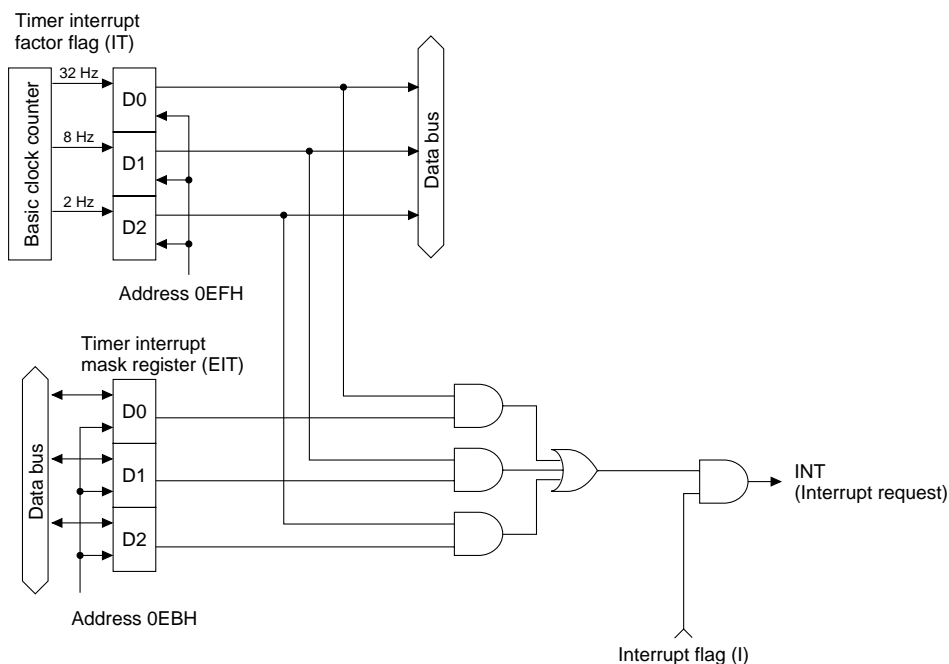

Fig. 3.9.2
The flag is reset, when it is loaded by software. (See Figure 3.9.2.)
- EIT32 This register enables or masks the 32 Hz timer interrupt. The CPU is interrupted if it is in the EI state when the interrupt mask register (EIT32) is set to "1" and the interrupt condition flag (IT32) is "1". (See Figure 3.9.2.)
- EIT8 This register enables or masks the 8 Hz timer interrupt. The CPU is interrupted if it is in the EI state when the interrupt mask register (EIT8) is set to "1" and the interrupt condition flag (IT8) is "1". (See Figure 3.9.2.)
- EIT2 This register enables or masks the 2 Hz timer interrupt. The CPU is interrupted if it is in the EI state when the interrupt mask register (EIT2) is set to "1" and the interrupt condition flag (IT2) is "1". (See Figure 3.9.2.)